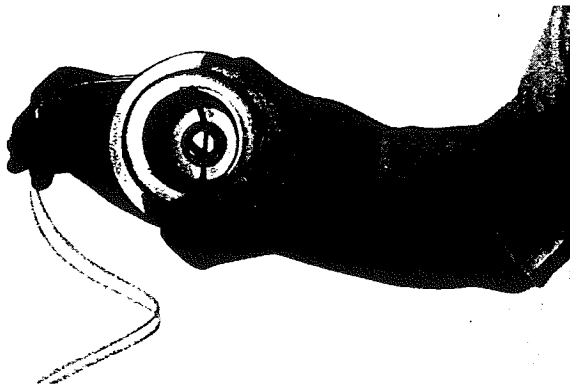

Figure 24
3. NOTE two small holes on interspool. Equal amounts of cord should be indexed at both sides of interspool by inserting nylon cutting cord in one hole and guiding it through the center of spool and out the other side. Following arrow on bottom of interspool, with nylon in direction of arrow. Do not over fill interspool. Capacity of nylon cutting cord is 30 feet and diameter of cutting cord is .080". Figure 24.